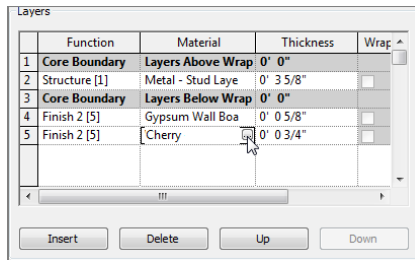

FIGURE 9.30: Click the button to change the material.
8. Click in the bottom layer's (5) Material column, and click the [...] button to change the material that is now Cherry, as shown in Figure 9.30.